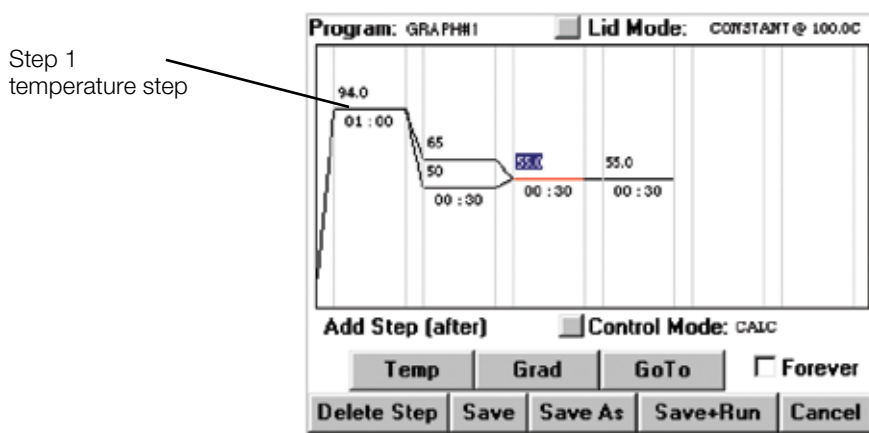

Figure 16. Editing a temperature step in Graphical Mode.
Step 1 of our protocol now consists of a temperature step with an incubation temperature of 94.0 and a duration of 01:00 (Figure 16).